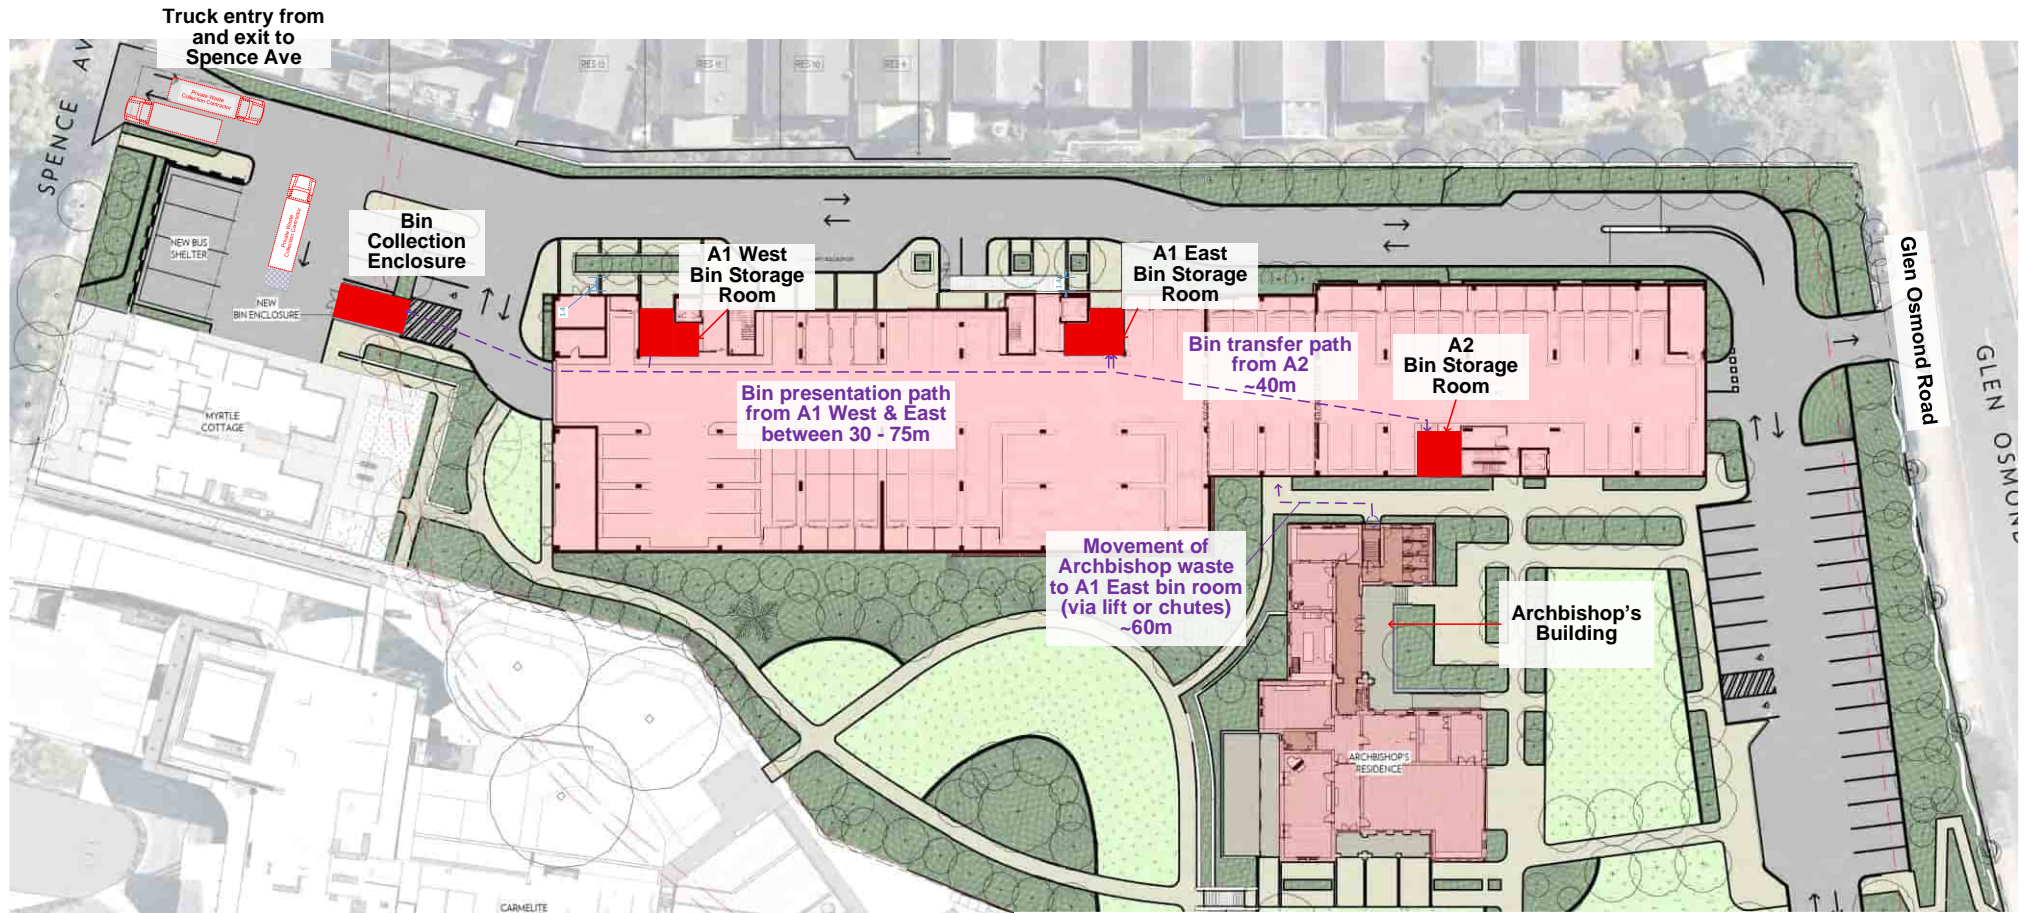
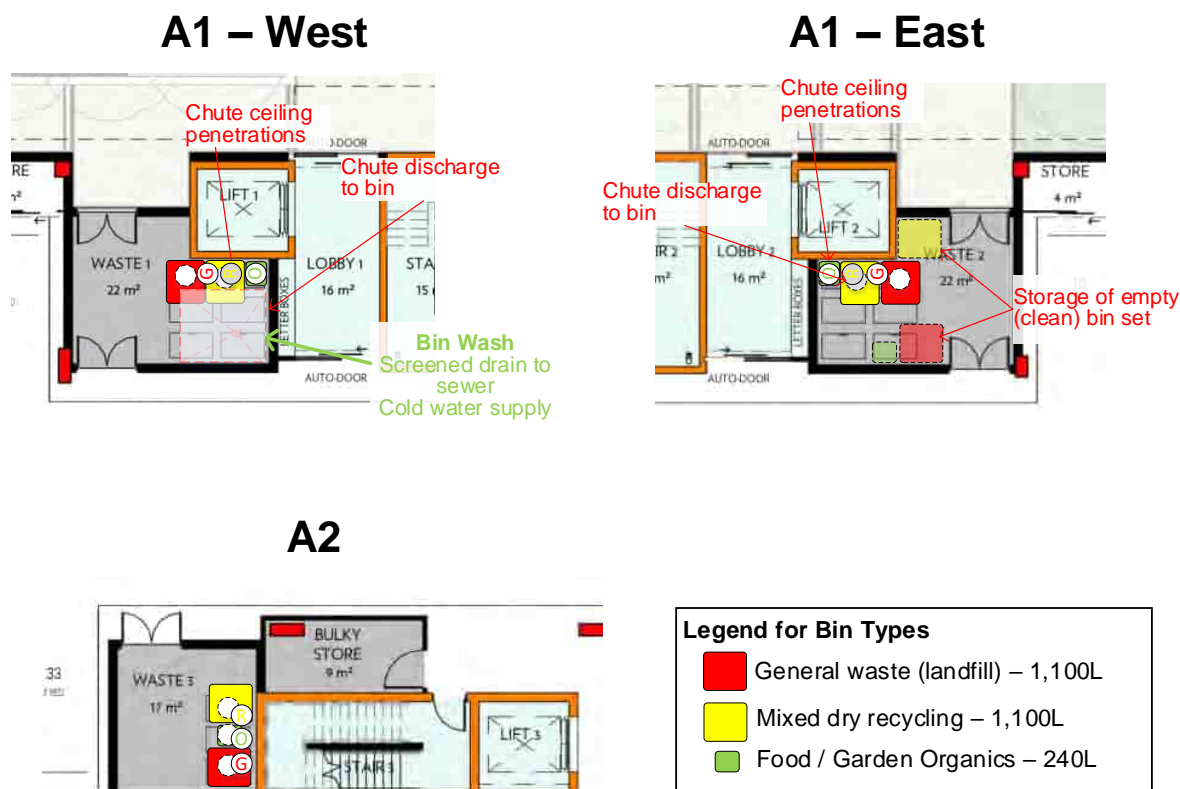

Figure 2-1: Overview of site including waste storage areas and transfer pathways
Figure 4-4: Bin storage rooms - Buildings A1 West, A1 East and A2.
Figure 2-1 reproduces the site plan (and provides an overview of the proposed waste management arrangements described later in the waste management plan).
For the Archbishop's Residence (administration office and communal activities), cleaning staff will collect waste from all areas and transport waste to the A1 East bin room in the basement (Figure 2-1). Waste would be carried either to the waste chute on ground level or via the lift to the basement bin room.
Waste Storage at the development utilises shared private skip bins (General Waste and Recycling) and MGBs (Food / Garden Organics) for all the dwellings and commercial services. An overview of the waste storage areas is shown in Figure 2-1 (page 5). Detail of the bin rooms are provided in Figure 4-4.
Building maintenance staff would move the skip bins from each undercroft bin room to the collection enclosure for waste collection and return them to the Bin Storage Room once emptied (see Figure 2-1). To help with fatigue management, the operator may consider using a battery-powered bin tug, which can tow 3 full bins simultaneously to the waste presentation enclosure. Information on tugs can be found online (emovit.com.au or lindemh.com.au).
- Would be by Private Rear-lift truck. The trucks would enter the site in a forward direction from Spence Avenue, reverse into the space to the west of the Bin Collection Enclosure and stop temporarily as shown in Figure 2-1. (Refer to Traffic Engineers advice for turning paths).
A dedicated on-site bin cleaning area would be provided and multi-purposed with the waste storage room for Building A1 West – see Figure 4-4.